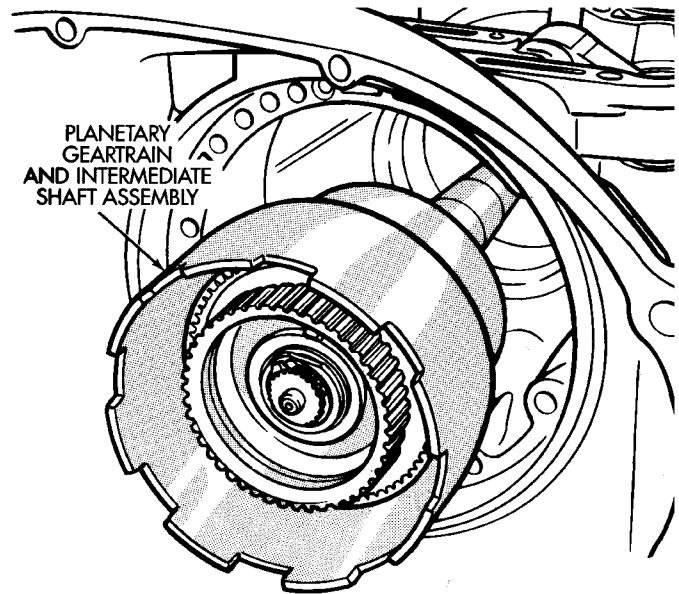

Fig. 114 Installing Planetary Geartrain
(9) Install planetary geartrain assembly (Fig. 114).